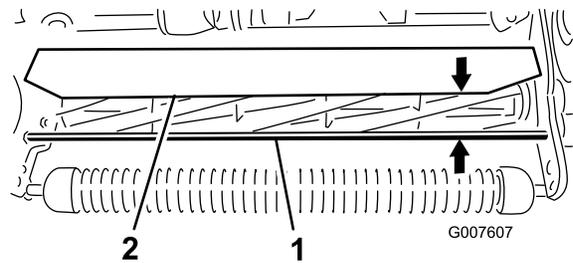

**Figure 57**
**Note:** The front roller can be put in 3 different positions (Figure 57), depending on the application and needs of the user.